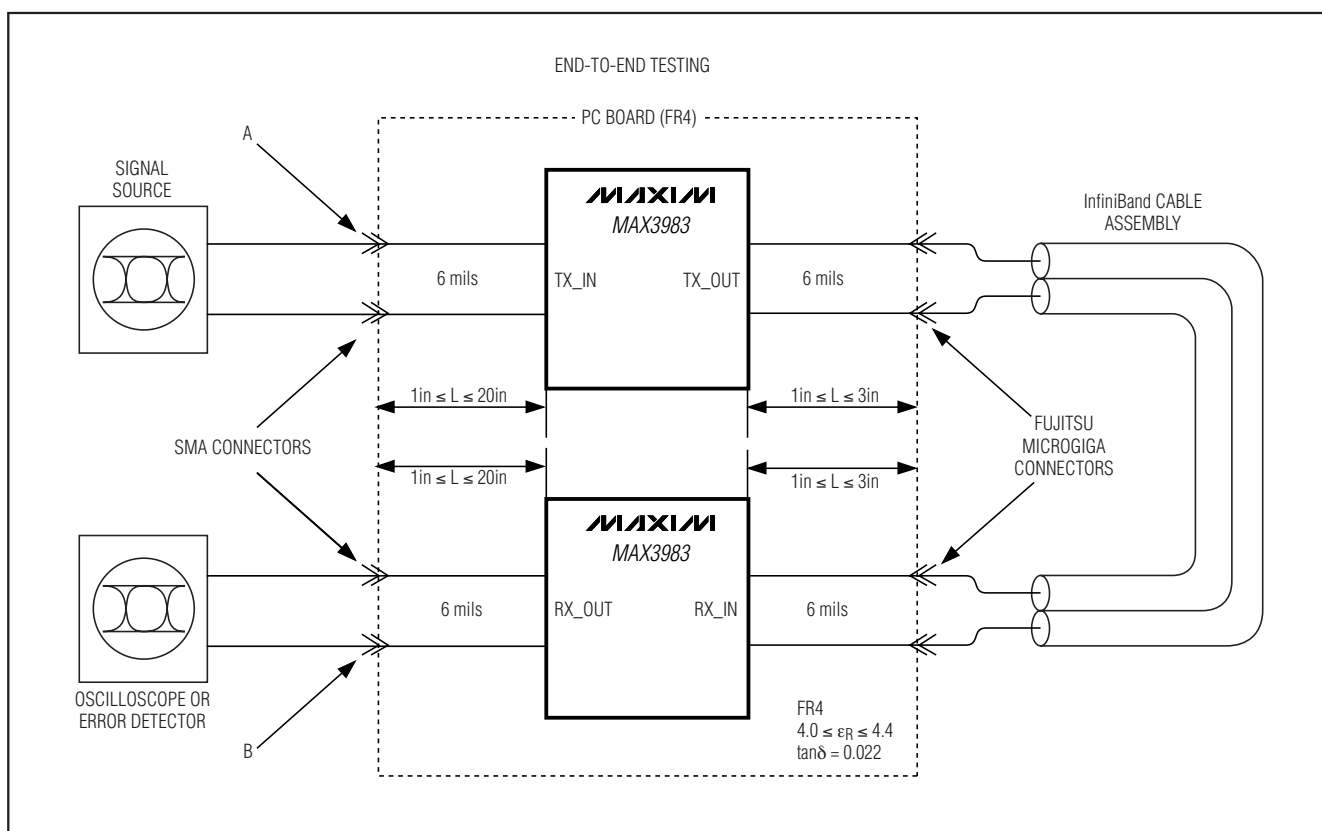

図2. エンドツーエンドテスト用構成。A点とB点がACパラメータテスト条件の基準となります。
Note 13: Cables are unequalized, Amphenol Spectra-Strip 24AWG or equivalent equipped with Fujitsu “MicroGiga” connector or equivalent. Residual deterministic jitter is the difference between the source jitter at point A and the load jitter at point B in Figure 2. The deterministic jitter (DJ) at the output of the transmission line must be from media-induced loss and not from clock-source modulation. Depending upon the system environment, better results can be achieved by selecting different preemphasis levels.